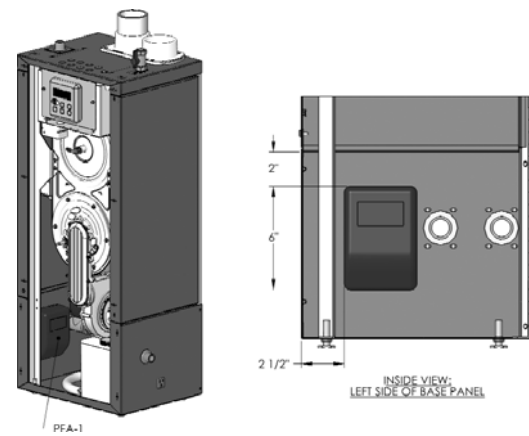

Figure 2
- Figure 2 shows the suggested mounting location for the PFA-1 Interface Adapter on the PF-210 and PF-399 boilers.